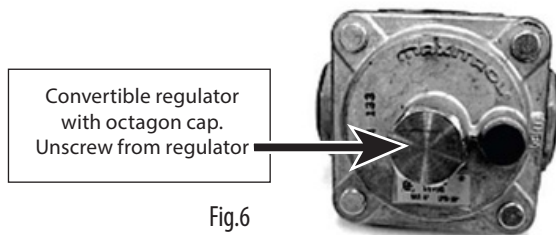

Fig.6
5. Before installing the included convertible regulator, unscrew the octagon cap. You can read (NAT) on the plastic insert attached to the head of the cap; flip it over and snap back in place (Fig.6).